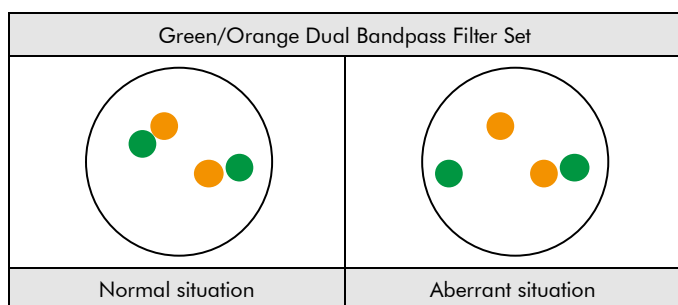

Fig. 2: Expected results in normal and aberrant interphase nuclei
**Normal situation:** In interphases of normal cells or cells without a translocation involving the BCL6 gene region, two green/orange fusion signals appear (see Fig. 2).
**Aberrant situation:** One BCL6 gene region affected by a translocation is indicated by one separate green signal and one separate orange signal (see Fig. 2).